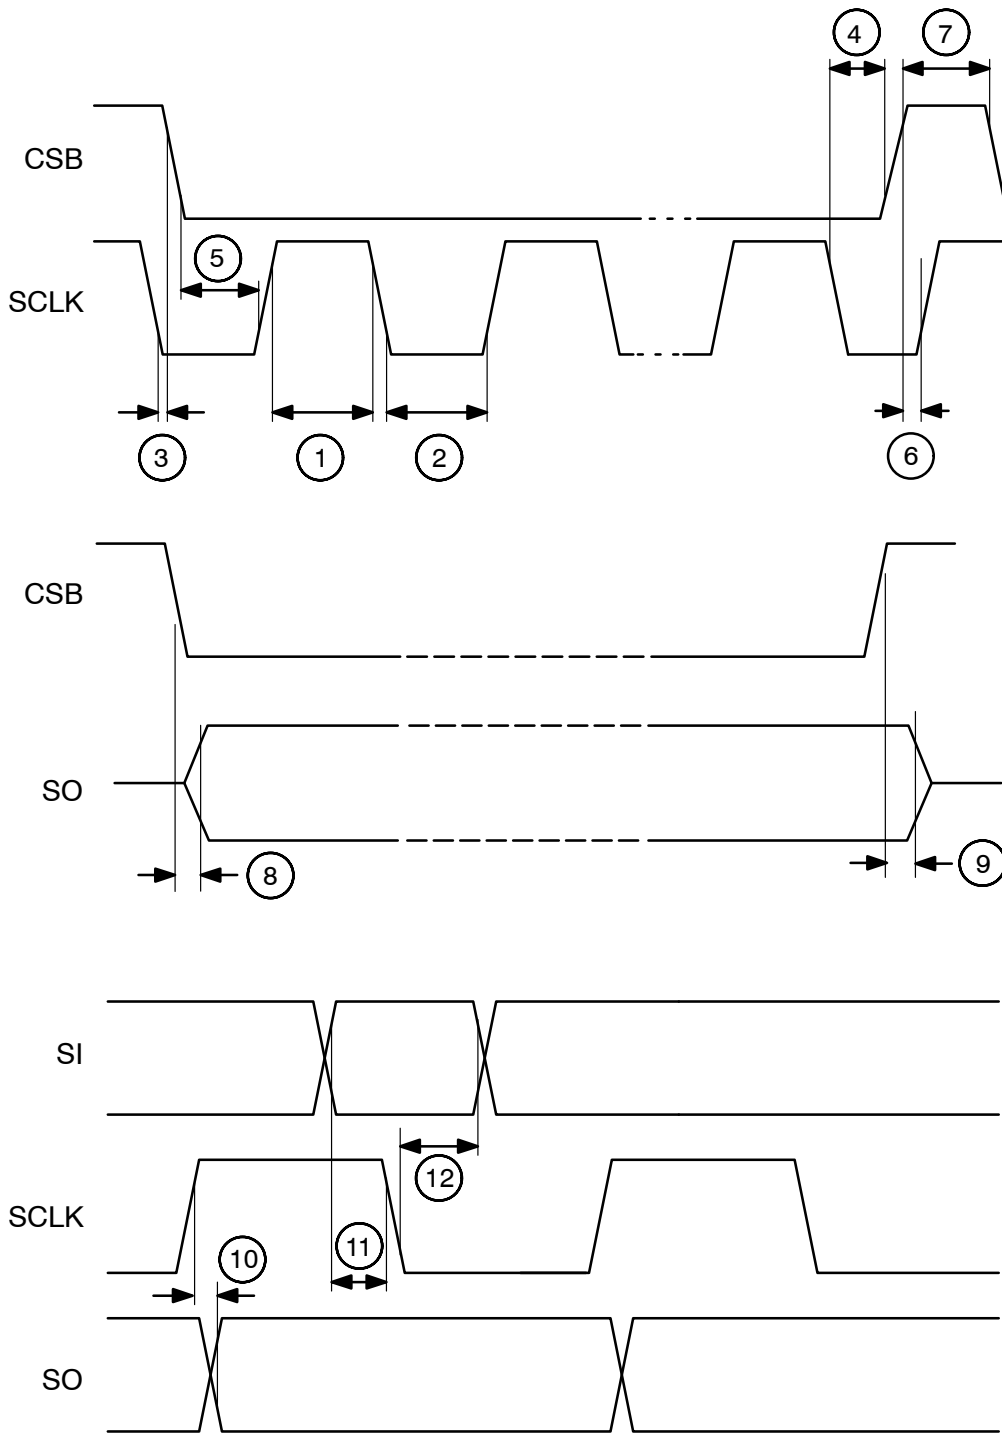

Figure 6. Detailed SPI Timing
3. CSB setup time ( $T_{csbSup}$ : Figure 6, #5) is satisfied.